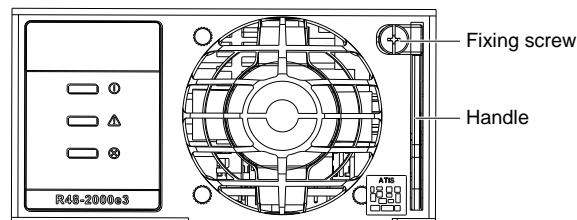

Figure 2-3 Handle of the rectifier
1. After loosening the fixing screw of the handle on the front panel of the rectifier, press the handle (see Figure 2-3) to pop it up.